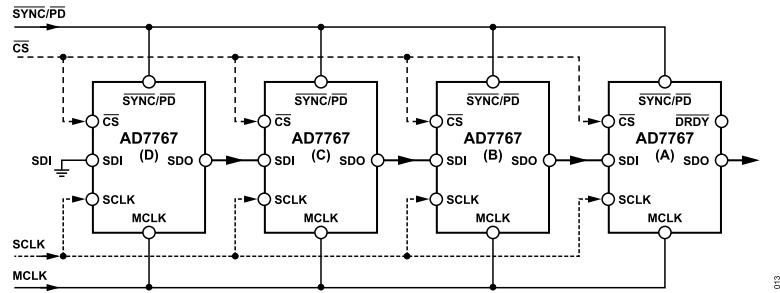
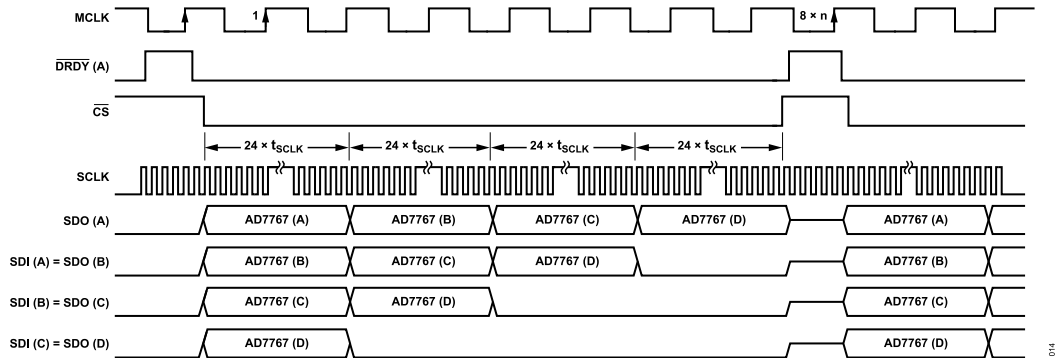
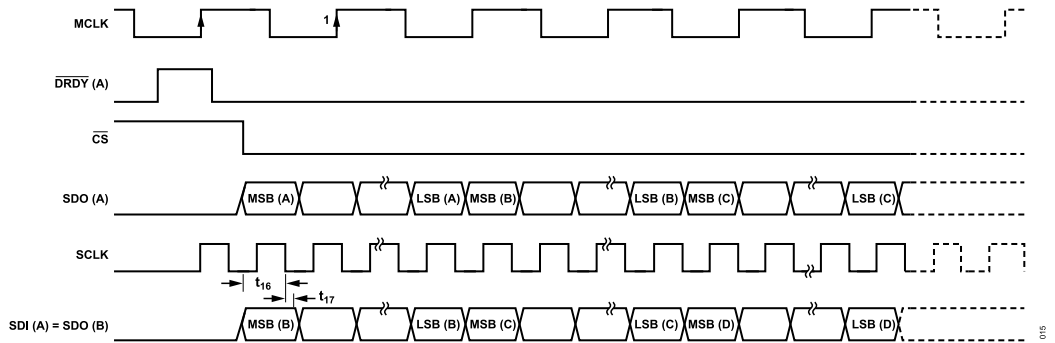

Figure 36. Daisy-Chain Configuration with Four AD7767 Devices
Figure 37. Daisy-Chain Timing Diagram ($n = 1$ for AD7767, $n = 2$ for AD7767-1, $n = 4$ for AD7767-2) When Driving the AD7767
Figure 38. Daisy-Chain SDI Setup and Hold Timing
The block diagram in Figure 36 shows how devices must be connected to achieve daisy-chain functionality. The scheme shown operates by passing the output data of the SDO pin of an AD7767 device to the SDI input of the next AD7767 device in the chain. The data then continues through the chain until it is clocked onto the SDO pin of the first device in the chain.
An example of a daisy chain of four AD7767 devices is shown in Figure 36 and Figure 37. In the case illustrated in Figure 36, the output of the AD7767 labeled A is the output of the full daisy chain. The last device in the chain (the AD7767 labeled D) has its serial data input (SDI) pin connected to ground. All the devices in the chain must use common MCLK, SCLK, $\overline{CS}$, and $\overline{SYNC/PD}$ signals.
After applying a $\overline{SYNC/PD}$ pulse to all the devices, there is a delay (as listed in Table 7) before valid conversion data appears at the output of the chain of devices. As shown in Figure 37, the first conversion result is output from the AD7767 device labeled A. This 24-bit conversion result is followed by the conversion results from the devices labeled B, C, and D, respectively, with all conversion results output in an MSB-first sequence. The stream of conversion results is clocked through each device in the chain and is eventually clocked onto the SDO pin of the AD7767 device labeled A. The conversion results of all the devices in the chain must be clocked onto the SDO pin of the final device in the chain while its $\overline{DRDY}$ signal is active low. This is illustrated in the examples shown (Figure 37 and Figure 38), where the conversion results from the devices labeled A, B, C, and D are clocked onto SDO (A) during the time between the falling edge of $\overline{DRDY}$ (A) and the rising edge of $\overline{DRDY}$ (A).
As shown in Figure 37, the number of SCLK falling edges that occur during the period when $\overline{DRDY}$ (A) is active low must match the number of devices in the chain multiplied by 24 (the number of bits that must be clocked through onto SDO (A) for each device).